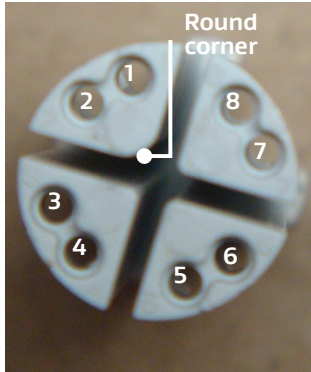
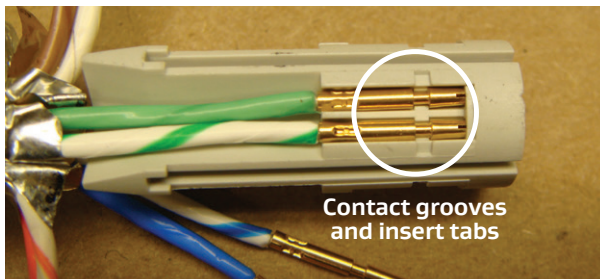

Figure 30: Connector insert positions
Figure 31: Contact grooves and insert tabs
19. Carefully insert each pair into the appropriate section of the connector insert according to the following table. Positions 1 and 2 are located on the section with the rounded corner at the center, which keys with the connector body (Figure 30). The grooves in the contacts should fit in between both tabs in each wire slot of the insert (Figure 31). NOTE: Wire color and location may depend on the individual requirements.